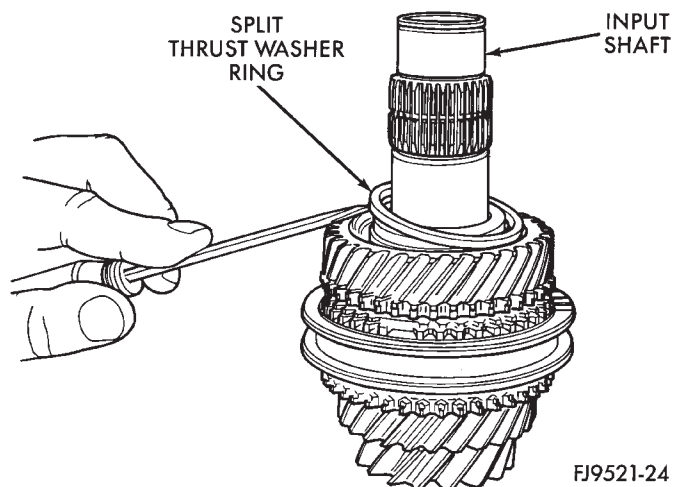

Fig. 91 Split Thrust Washer Ring Removal
(4) Remove 4-5 gears split thrust washer ring (Fig. 91).